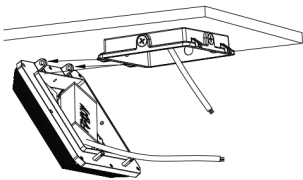

Figure 2-5
5. Insert the mounting hole of hinge horizontally on the shaft of the light source. Figure 2-5